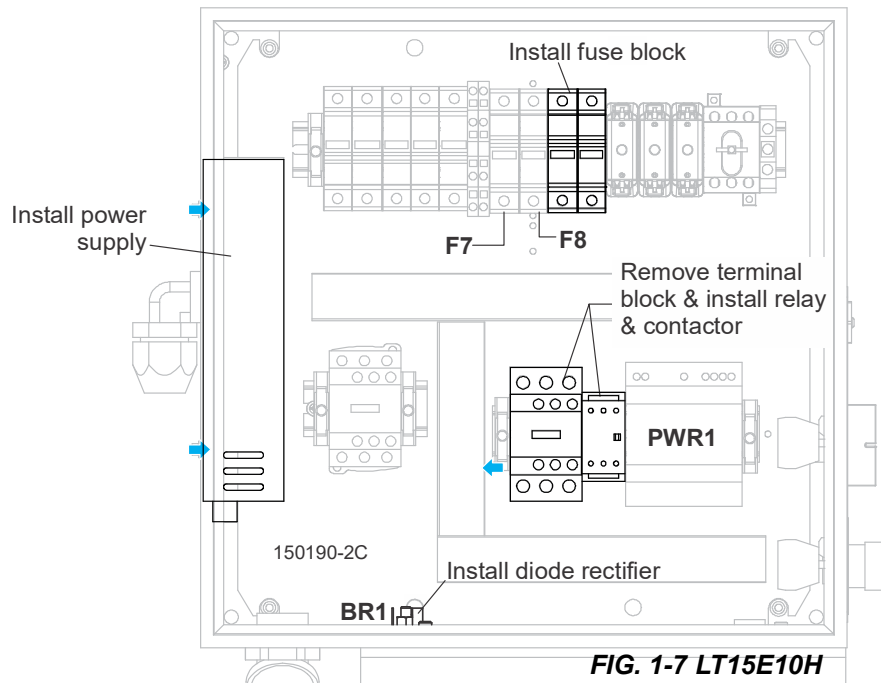

FIG. 1-7 LT15E10H
14. Secure with the previously removed 4mm bolts and lock washers. See Fig. 1-7.